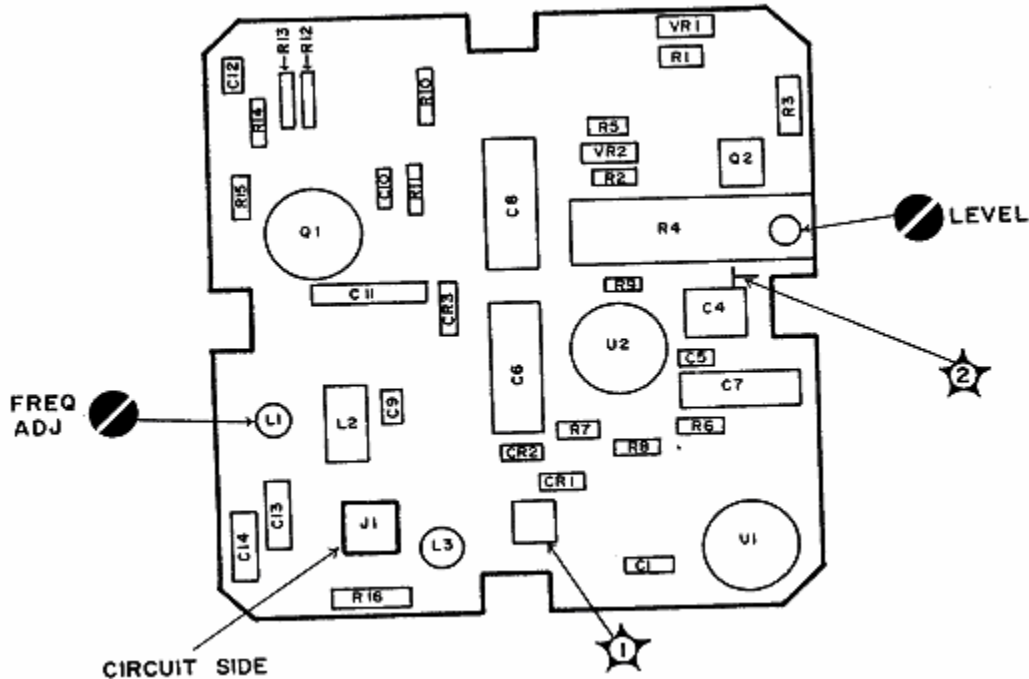

Figure 5. REF FREQ and LEVEL adjustments.
- (2) Grasp power reference oscillator assembly firmly, and remove four screws which secure it to power meter chassis.
- (3) Tilt power reference oscillator assembly to gain access to circuit board underneath metal cover, and adjust A8L1 (FREQ ADJ) (fig. 5) to obtain a 50.00 MHz indication on counter (R).
(13) If calculated PRF is not between 0.993 and 1.007 mW, perform **b** below.
**b. Adjustments.** Remove TI top cover and set TI **POWER REF** switch to **ON** (in) and adjust LEVEL ADJUST A8R4 (model 436A) (models 435A and 435B) (fig. 5) so that calculated PRF in **a** (13) above is 1 mW.